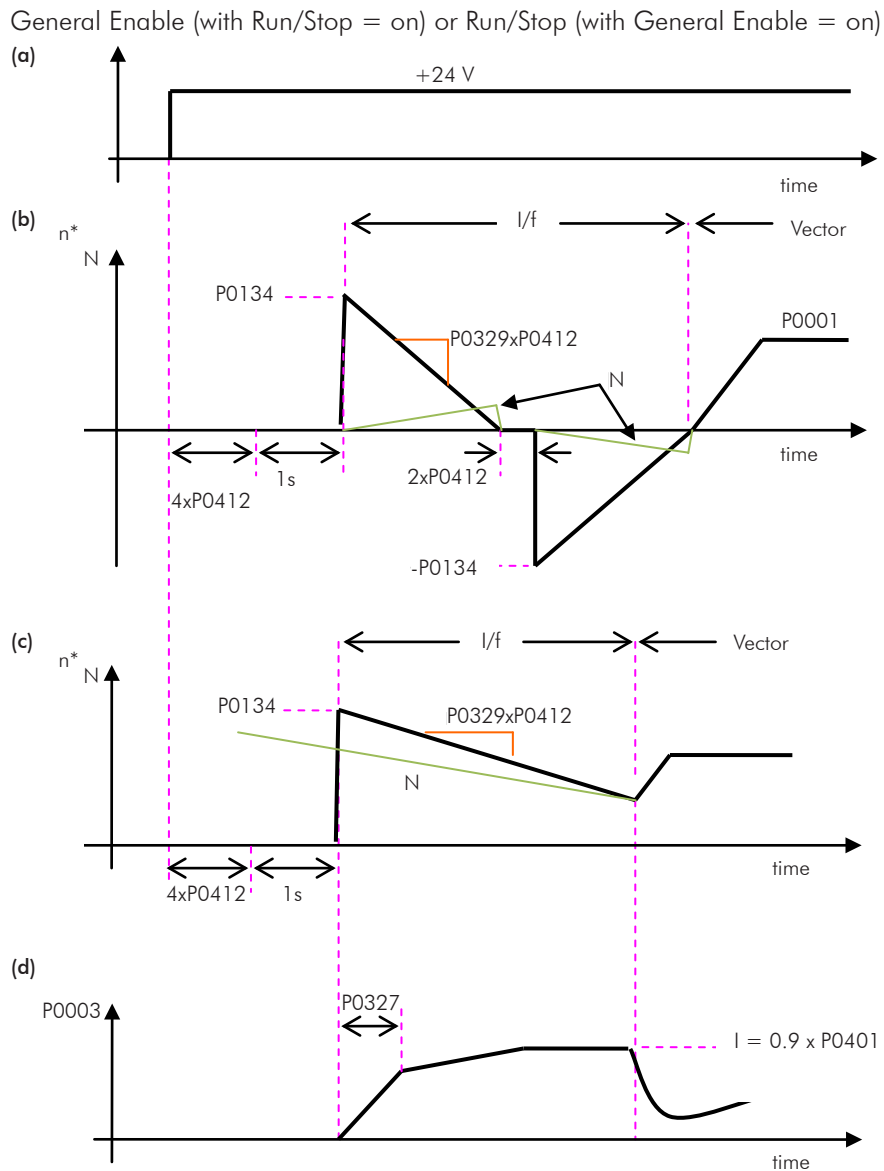

Figure 12.6 - (a) to (d) - Influence of P0327 and P0329 during Flying Start ($P0202 = 3$)
The behavior of the Flying Start function (FS) in the sensorless mode during acceleration and reacceleration can be understood from the Figure 12.6 on page 12-14.
The Figure 12.6 on page 12-14 \(b\) shows the behavior of the speed reference when the FS function is started with stopped motor shaft and small P0329 value (not optimized).
The Figure 12.6 on page 12-14 \(c\) shows the speed reference when the FS function is initiated with the motor shaft already running in the desired direction, or with stopped shaft and an already optimized P0329.